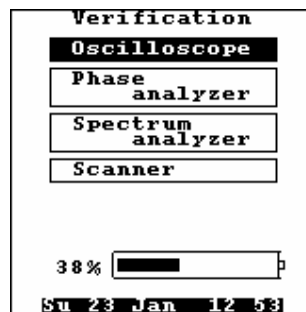

Fig. 12
- The VERIFICATION mode can be got from the initial splashscreen. To enter VERIFICATION mode press and release the SHIFT+ENTER keys. VERIFICATION menu appears on the Display (Fig. 12).